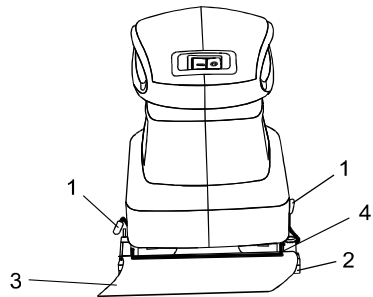

Fig. 3
1. Lift up and outward on the front and rear sandpaper clamp levers (1) at the front and rear of the backing pad (2) (see Fig. 3).
2. Insert one end of the 1/4 sheet sandpaper (3) with grit side up into the open front sandpaper clamp (4), making sure it is aligned with the backing pad. Lift sandpaper clamp lever up and inward to lock sandpaper into clamp.
1. Install the sandpaper as shown in Fig. 3 & 4.